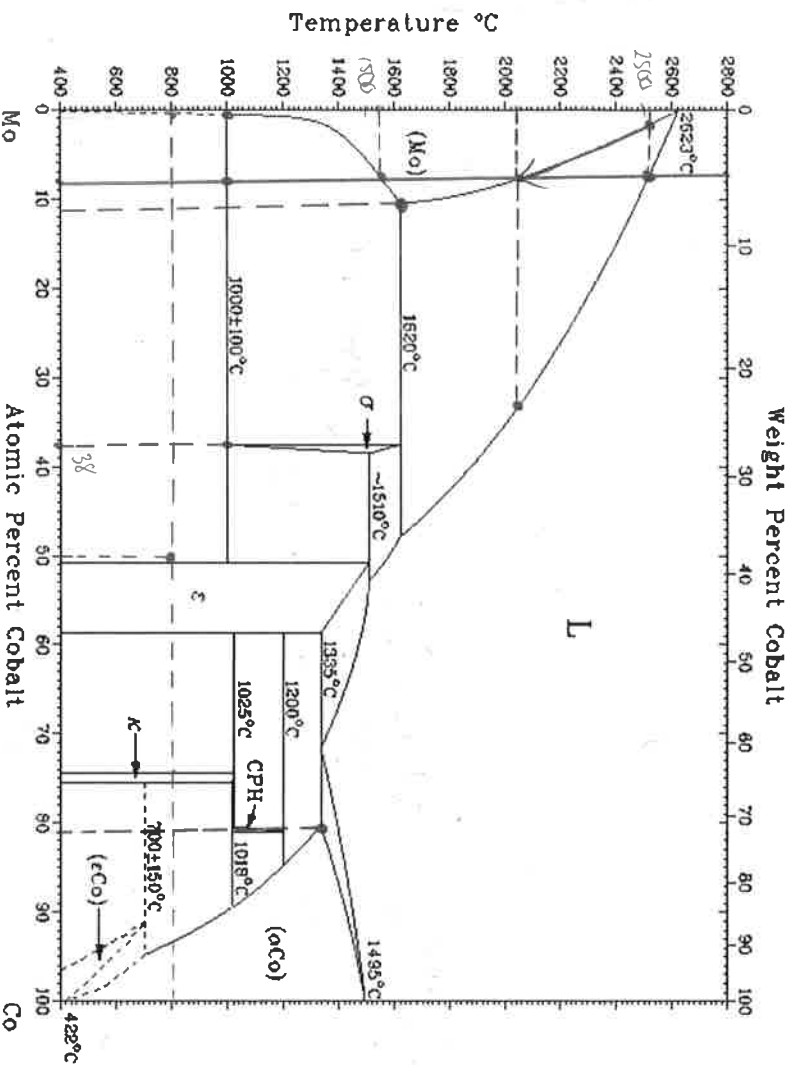

Figure 2 Co-Mo binary phase diagram
2. Co-based alloys are commonly used for implants. Based on the Co-Mo phase diagram shown in Fig. 2: